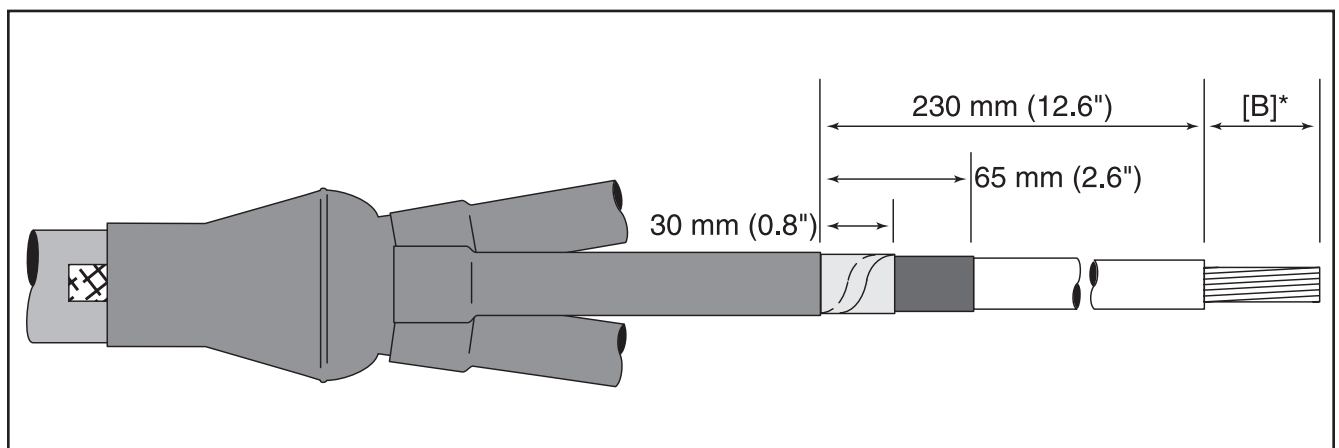

Figure 9
5.1 Prepare cable phase legs according to dimensions shown (*Figure 9*). “B”=Lug or connector barrel depth. Allow for crimp growth when using aluminum lugs or connectors.